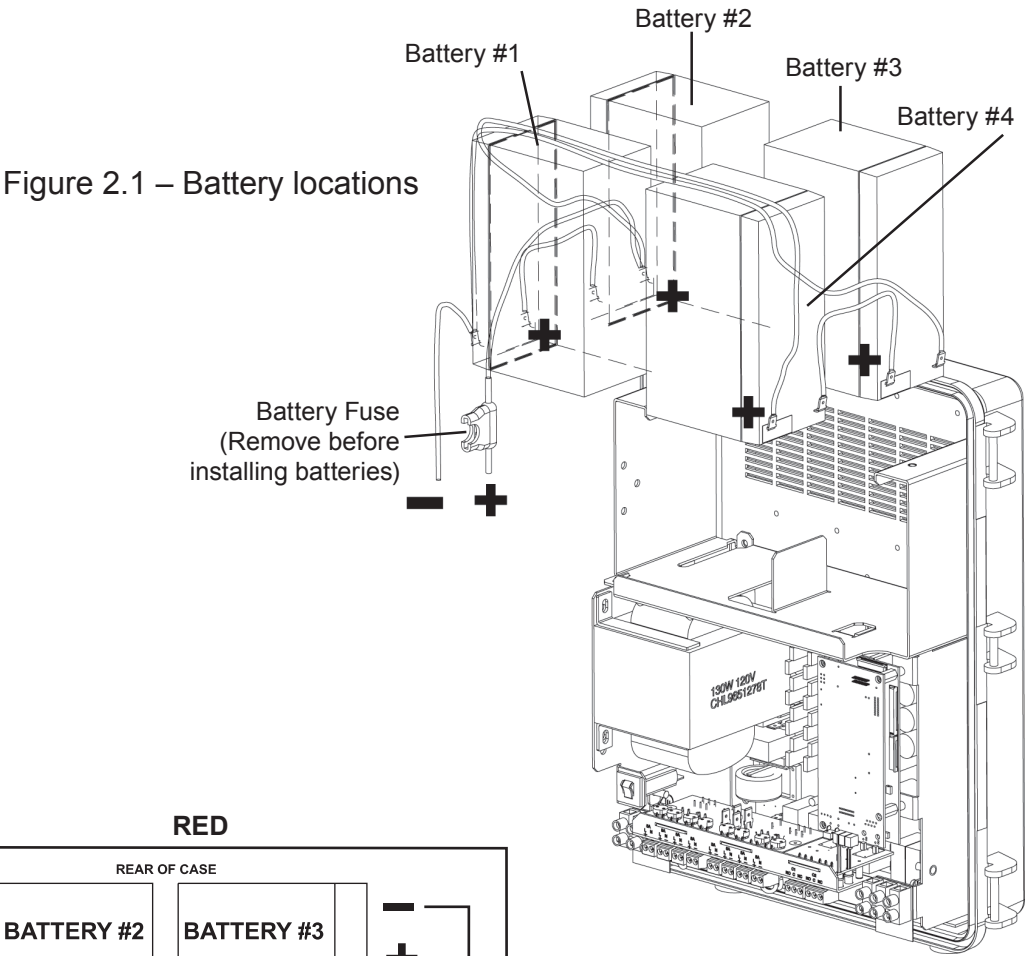

Figure 2.1 – Battery locations
- a. Install the 4 batteries and wire them up as shown in Figures 2.1 and 2.2 below.